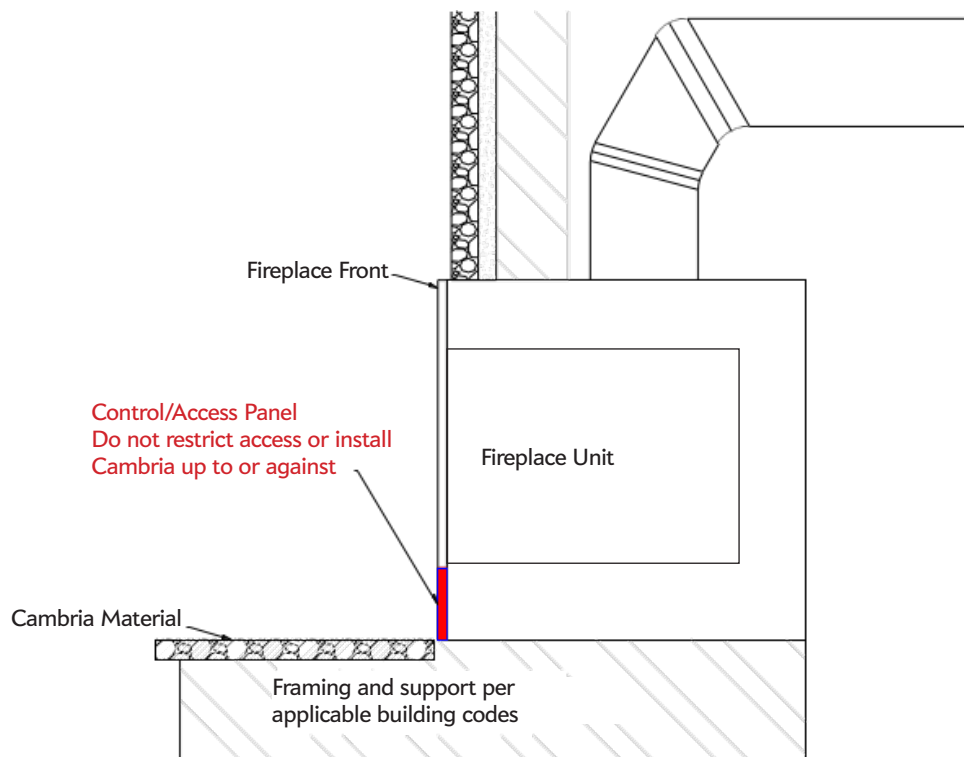

Figure 1
- Cambria product must be installed so it does not interfere or restrict access to the control panel of the fireplace per manufacturer's installation requirements. See **Figure 1**.